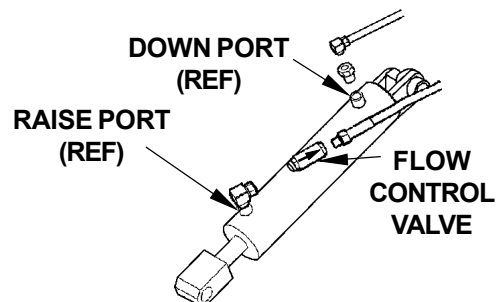

FIG. 40-3
7. Check if Flow Control Valve (FIG. 40-3) is pointing to the direction of restricted fluid flow (back toward pump). If required, remove Flow Control Valve and install it correctly (FIG. 40-3).